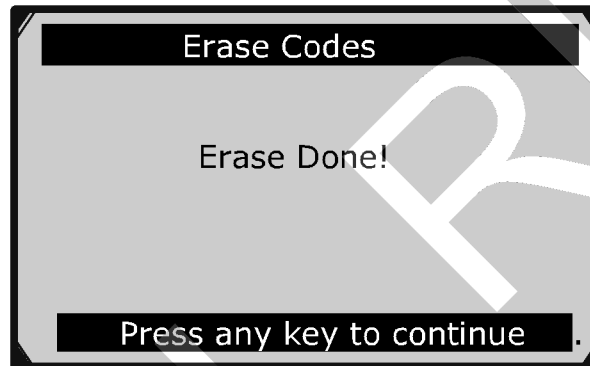

Figure 6.7
- If the codes are cleared successfully, an “Erase Done!” confirmation message shows on the display.( Figure 6.7)